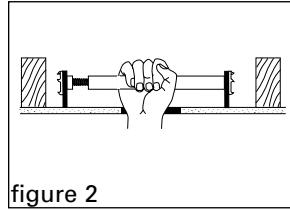

figure 2
2. With both Saf-T-Brace® feet resting on the sheetrock, **by hand only** rotate the square tube until "teeth" are firmly locked into the joist; a 7/8" wrench may be required for the final turn to bring bar around to the flat side. **Do not install using wrench.** A flat side of tubing must be parallel to the sheetrock so that the box bracket will hang correctly (figure 2).